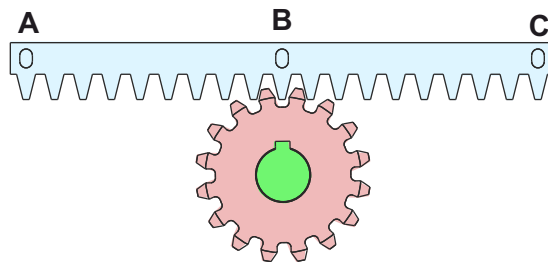
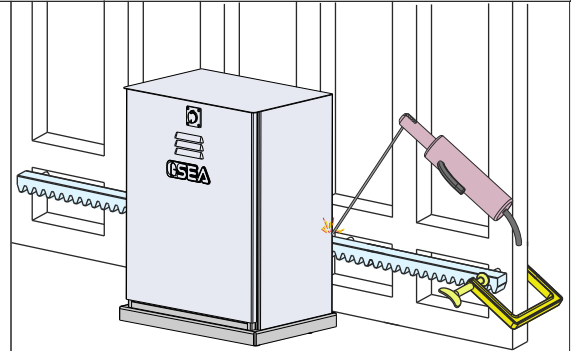

Fig. 9
Fig. 10
6.3. Lean the rack element on the pinion - Fig. 9 - in parallel to the gate slideway on the ground, then weld the central pawl **B** to the gate structure - Fig. 10.